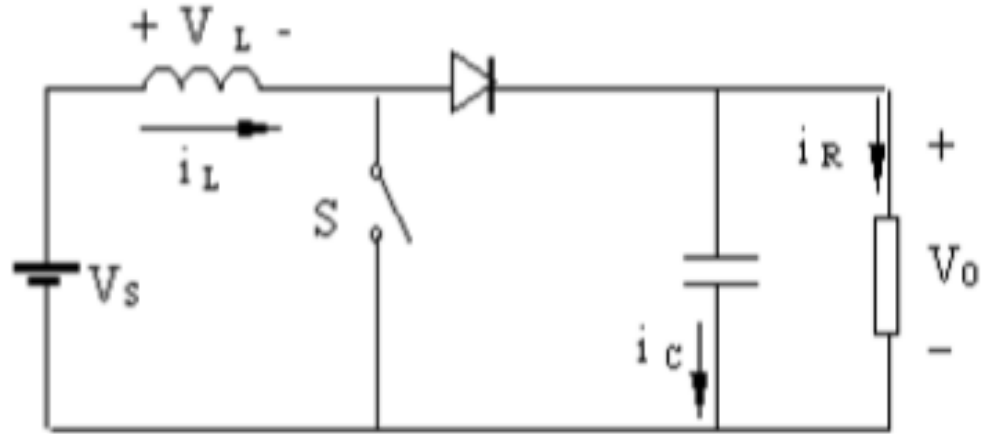

Fig. 6.5-Boost Converter
- Fig. 6.5 shows a boost converter circuit. The chopper switch in this circuit can be implemented by using a power BJT, power MOSFET, GTO, and so on.